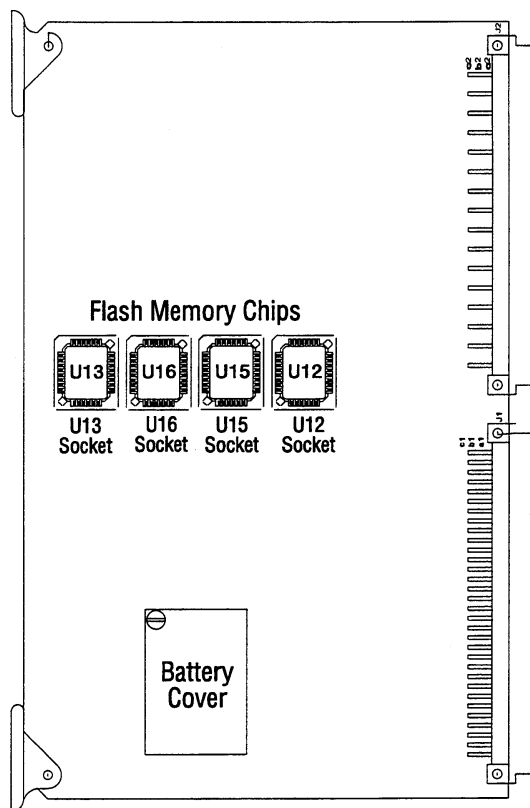

Figure 8-15. CPU Board
Refer to Figure 8-15 for location of the main control assembly.
2. Turn main power switch (refer to Figure 8-15) OFF.
2. Refer to Figure 8-15, and locate battery. Remove using a small blade screwdriver.